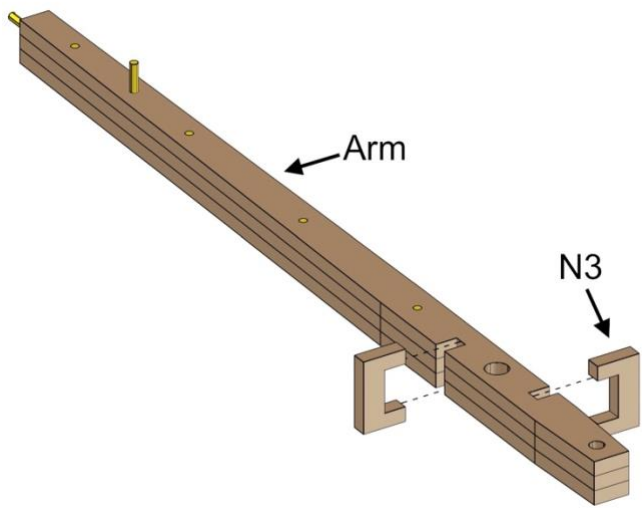

Fig. 65
- Align parts exactly as shown in *Fig. 65*.